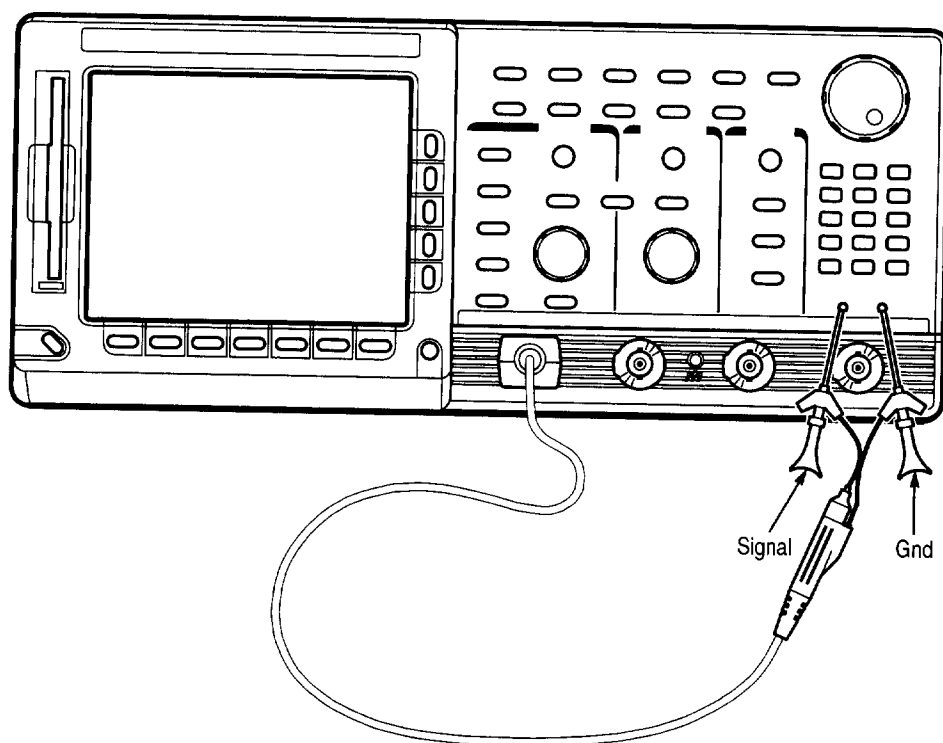

Figure 1-3: Universal test hookup for functional tests – TDS 600C shown
- a. *Hook up the signal source:* Install the probe on **CH 1**. Connect the probe tip to **PROBE COMPENSATION SIGNAL** on the front panel; connect the probe ground (typically black) to **PROBE COMPENSATION GND**. If using a P6243, P6245 or P6249 probe, you may want to attach a Y-lead connector and two SMD KlipChips as shown in Figure 1-3.
- a. *Hook up the signal source:* Install the probe on **CH 1**. Connect the probe tip to **PROBE COMPENSATION SIGNAL** on the front panel; connect the probe ground to **PROBE COMPENSATION GND**. See Figure 1-3 on page 1-8.